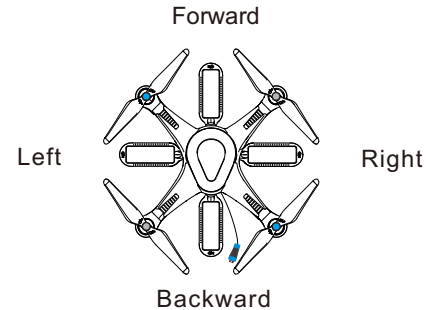

Figure 5: Drone Orientation Diagram
- ① To power on or use the mooring integrated box, you need to connect an external power supply.
- ② When the system is disconnected from the external power supply, the backup battery of the tethered box will supply power to the box and the drone, and the buzzer of the case will start to alarm, and the backup battery will stop supplying power after about 5 minutes. (If you need to quickly turn off the backup battery power supply of the tethered Box, you need to rotate the “Cable Retracting” on the tethere Box back and forth within 15 seconds from off to auto for a total of 5 round trips).
- ① The direction of the drone itself (as shown in Figure 5), the rounded blue and white top cover is the nose, and the sharper part is the tail.
- ② When flying at night, the color of the lights on the bottom of the wings can be used to determine the direction of the drone; the side with the red light on is the nose, and the side with the blue light on is the tail.